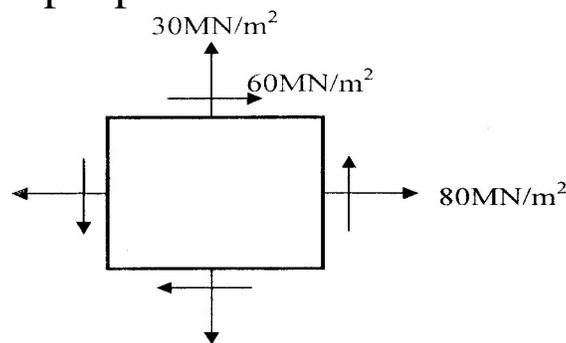

Figure 3
17. For the state of stress given in Figure 3 determine (a) principal stresses (b) principal planes.